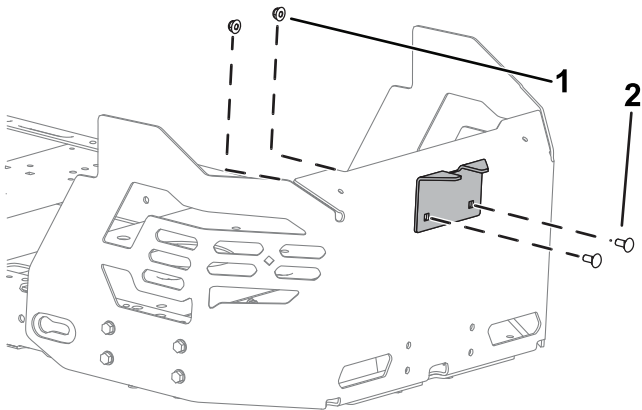

**Figure 15**
4. Loosely install the pivot frame to the machine frame using 2 bolts (5/16 x 1 inch) and 2 locknuts (5/16 inch) as shown in Figure 15.
6. Tighten the 2 bolts (5/16 x 1 inch) and 2 locknuts (5/16 inch) as shown in Figure 15.